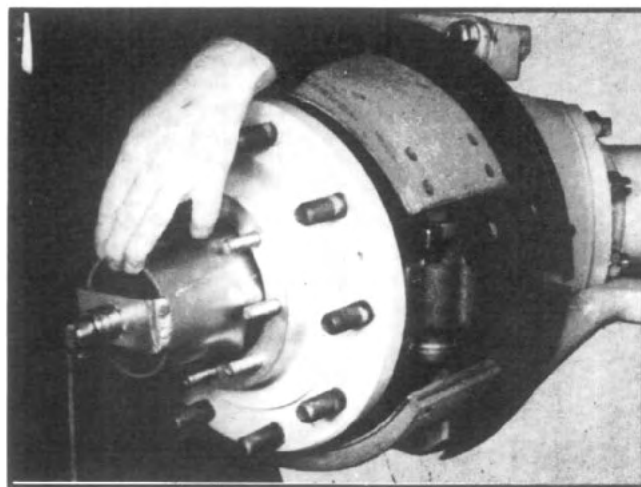

Fig. 4
7. Remove the wheel bearing lock nut (See fig. 4, Page 4) and lockwasher from spindle. Loosen wheel bearing adjustment nut.
8. Tighten wheel bearing adjusting nut while turning the hub, back off  $\frac{1}{2}$  turn and then tighten to 50 ft. lbs. torque. (See fig. 4, Page 4.) Back off  $\frac{1}{4}$  turn. Install the wheel bearing lockwasher with tang in the spindle keyway and one side or the other toward the bearing locknut in such a way as to fit over dowel.